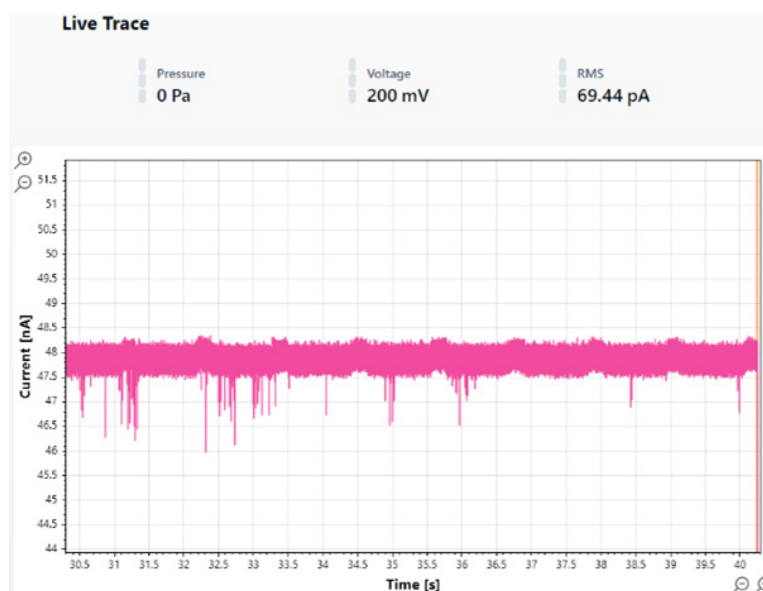

Figure 14. Blockade bursts.
- Blockades occurring in bursts (Figure 14)